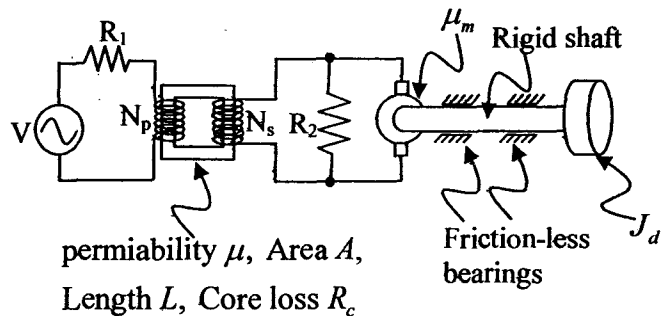

Figure 3
3. Derive the equivalent system of the system shown in Figure 3 by referring the magnetic domain to the primary side of the electrical domain of the transformer. Derive the state-space equations of the equivalent system from its bond graph model. The magnetic core has cross-section A , effective length L and magnetic permeability μ . R_c is the damping that represents magnetic core losses. The number of turns in primary and secondary sides of the transformer are N_p and N_s , respectively. The DC motor constant is μ_m . The transmission shaft is torsionally rigid and J_d is the rotary inertia of the disc including the rotary inertia of the rotor of the motor. R_1 and R_2 are two electrical resistances.